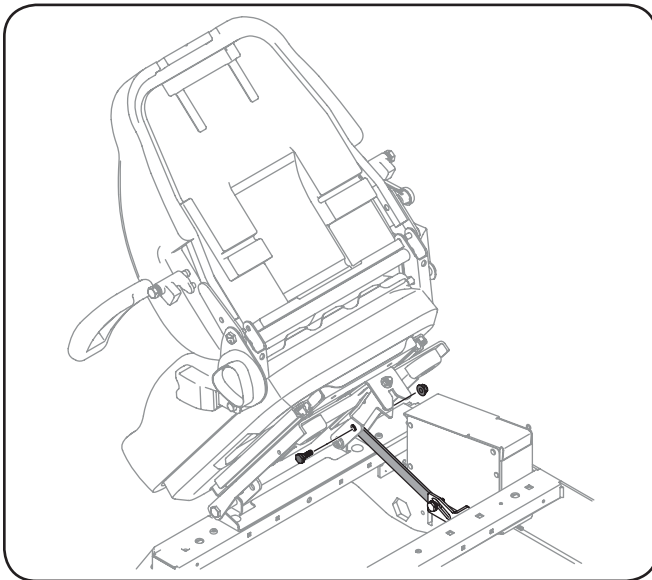

Figure 3-10
3. Remove the shoulder screw and flange lock nut from manual bag and install the seat lockout bracket as shown in Figure 3-10.